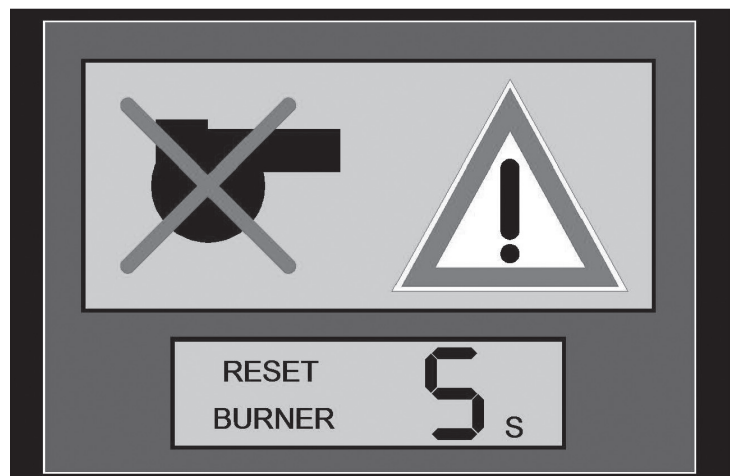

Figure 38
4. The display will change to the one shown in Figure 38.